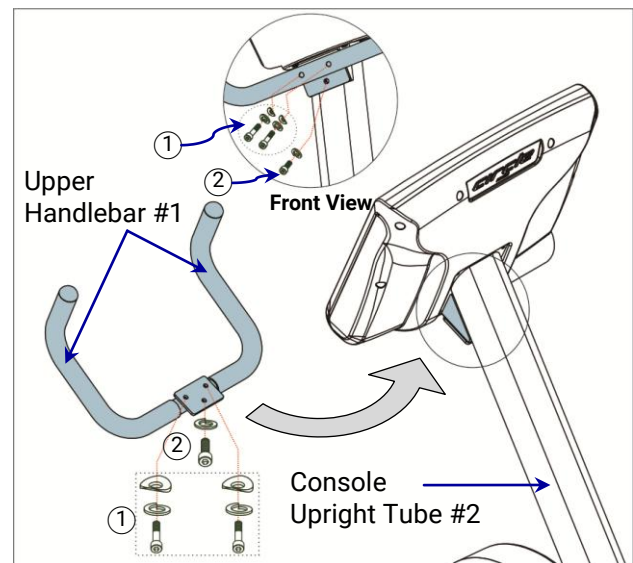

Fig 2.5-8
- 1) Attach the **Upper Handlebar #1** to the **Console Upright Tube #2** using (2) M8 x 65mm Screws, (2) M8 S Washers and (2) M8 Curve Washers (Fig 2.5-8, ①) with the provided 5mm Allen Wrench.
- 2) Tighten the M8 x15mm Screw and the M8 S Washer (Fig 2.5-8, ②) with the provided 5mm Allen Wrench.